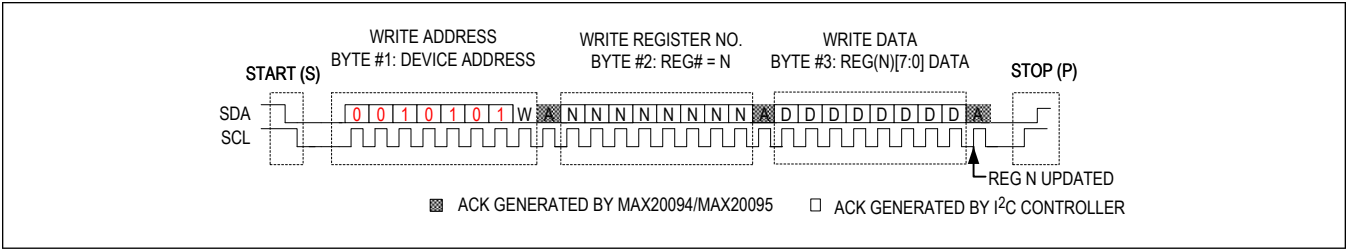

Figure 6. I2C Write Sequence
A controller device communicates with the device by transmitting the proper target address, followed by a register/command and data word(s). Each transmit sequence is framed by a START (S) or Repeated START (Sr) condition and a STOP (P) condition. Each byte is 8 bits long and is always followed by an acknowledge (ACK) clock pulse, as shown in Figure 6. The first byte contains the address of the device, with R/W = 0 to indicate a write. The second byte contains the register (or command) to be written, and the third byte contains the data to be written.